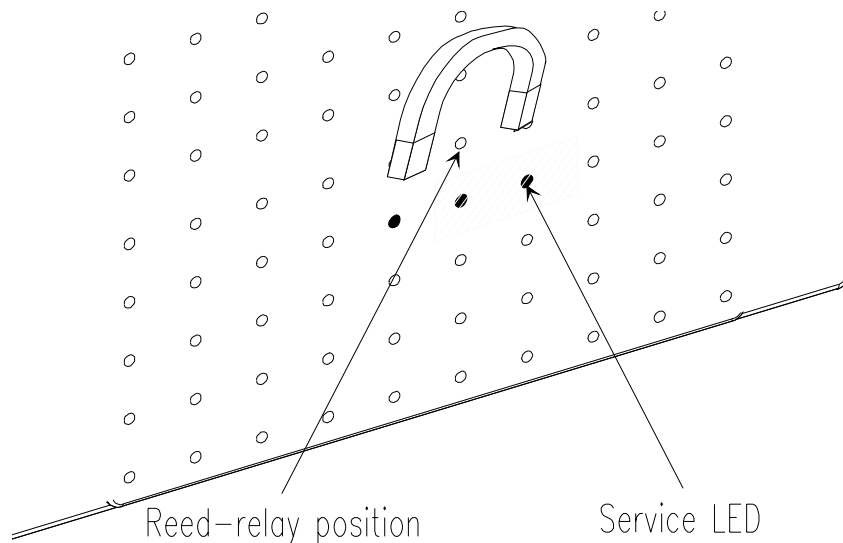

Figure 17. Activation of Service Pin with Magnet
To identify the node, you can activate the service pin by means of the Reed-relay located within the unit (see Figure 17). To do this, follow these steps:
1. To activate the service pin place a small magnet near the front cover, as illustrated in Figure 17. Doing so causes the yellow service LED (to the right) to light up.